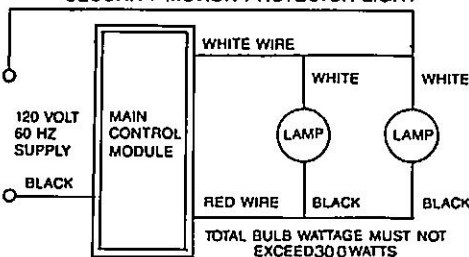
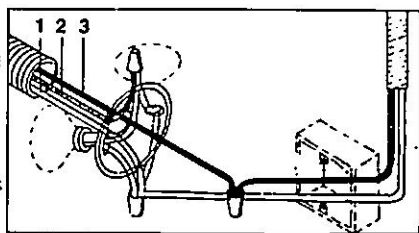

FIG. 2
FIG. 3
- 3 Refer to the diagram shown in Fig 2 and the wiring diagram shown in Fig 3 for electrical connections. Follow this step by step procedure for wiring the fixture. Wiring the unit incorrectly may damage the electronic components inside the control module and will void all warranty claims.